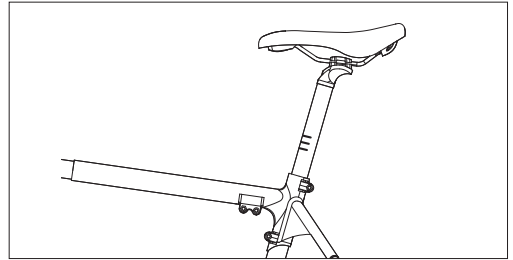

Figure 3-2
- Adjust the saddle height to your proper height. Do not exceed the maximum height limit of the saddle, as shown in **Figure 3-2**. Then tighten bolts **F** and **J**.